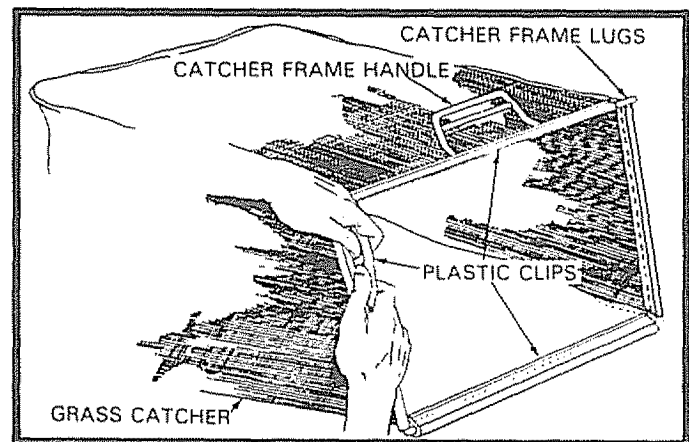

FIG. 5
- To assemble the Grass Catcher to the Catcher Frame, open the edges of the Plastic Clips and slip over the Catcher Frame as shown in fig. 5.